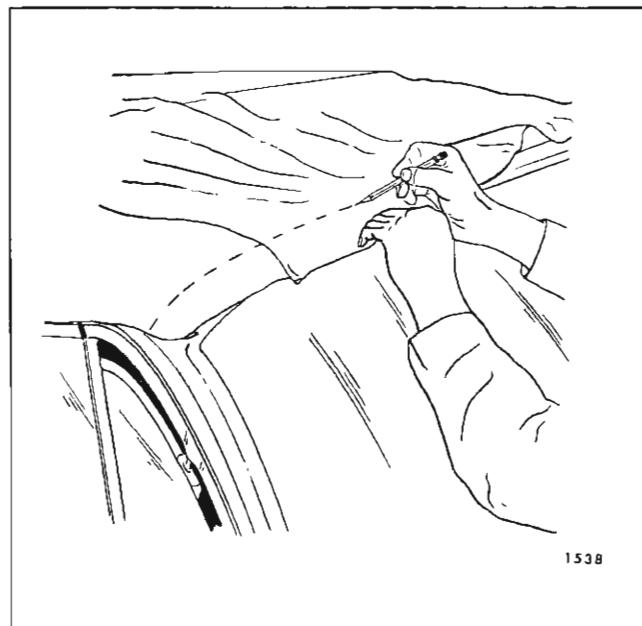

Fig. 2-I-23—Marking Top Material At Front Roof Rail
surface of trim material along forward edge of front roof rail (Fig. 2I23).
49. Unlock top from windshield header and apply nitrile cement or neoprene-type weatherstrip adhesive to tacking area of front roof rail and corresponding surface of top material. Pull top trim material slightly forward so that pencil marks are on underside of front edge of front roof rail. Fasten top trim to cemented area and stay tack trim to rail (Fig. 2I24).